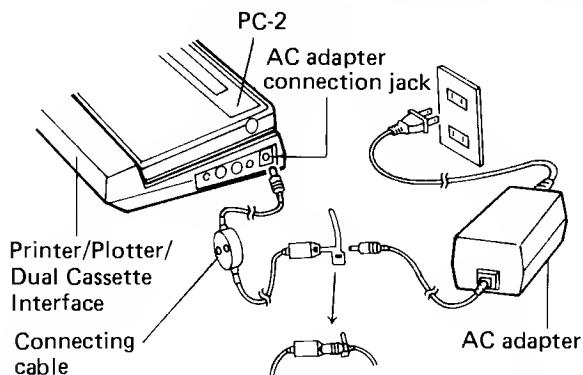

Figure 6. Using the AC Adapter with the Printer/Plotter/ Dual Cassette Interface.
4. (For U.S.A. only) If you are using an external power supply for Printer/Plotter/Dual Cassette Interface, plug the Choke Cable into the external power supply connector of the Printer/Plotter/Dual Cassette Interface. (See Figure 6.)